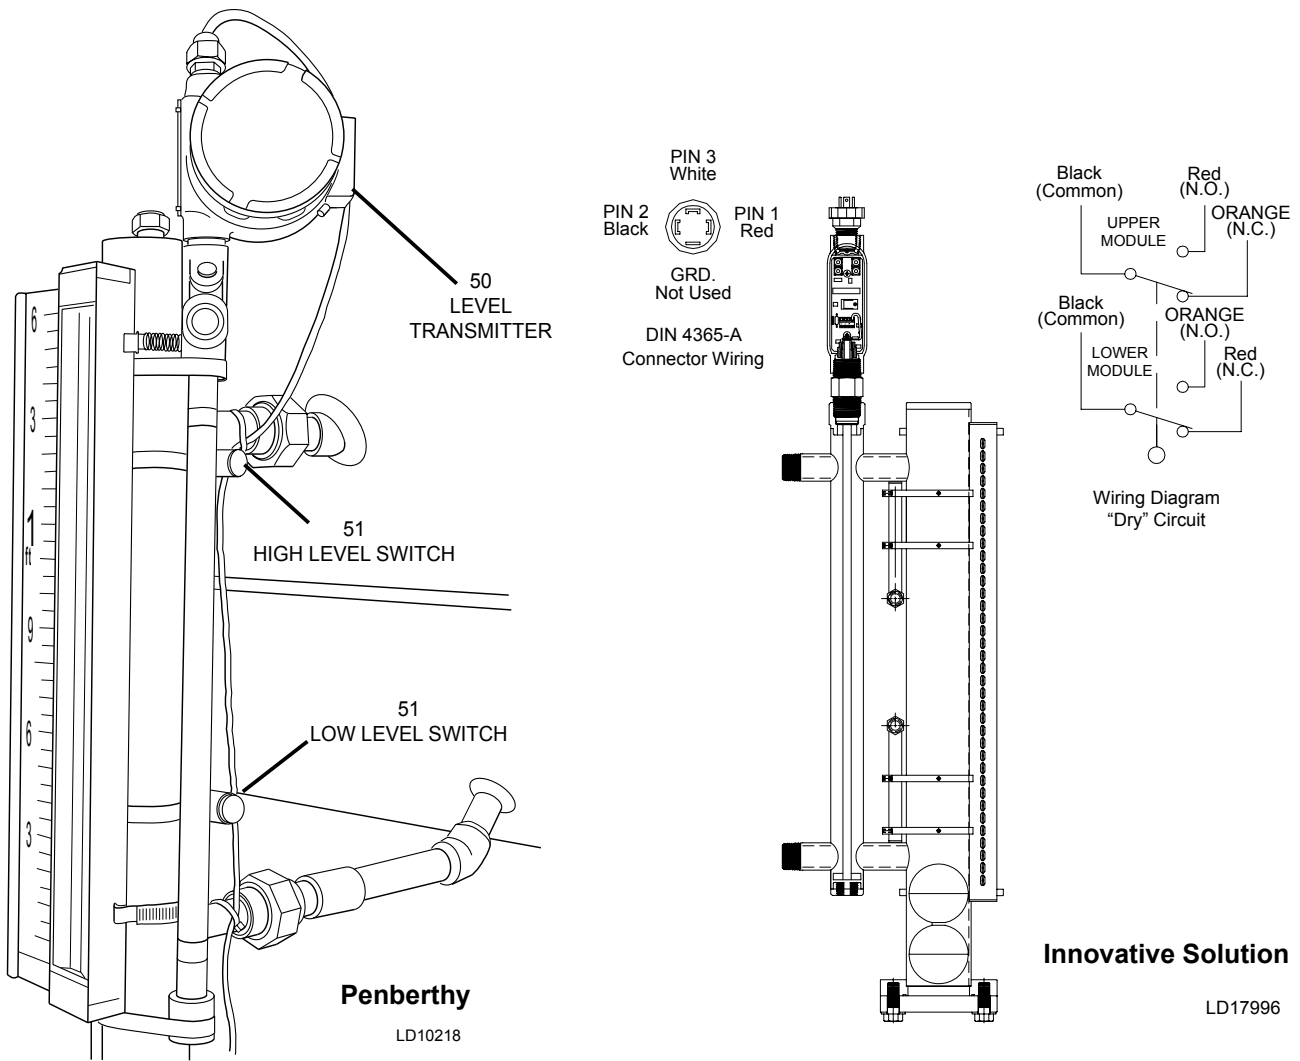

FIGURE 27 - STEAM CONDENSER HOTWELL LEVEL TRANSMITTER AND SWITCHES (PENBERTHY) STEAM CONDENSER HOTWELL LEVEL TRANSMITTER AND SWITCHES (INNOVATIVE SOLUTIONS)
**** Reference *Figure 27 on page 44* to determine if Penberthy or Innovation Solution